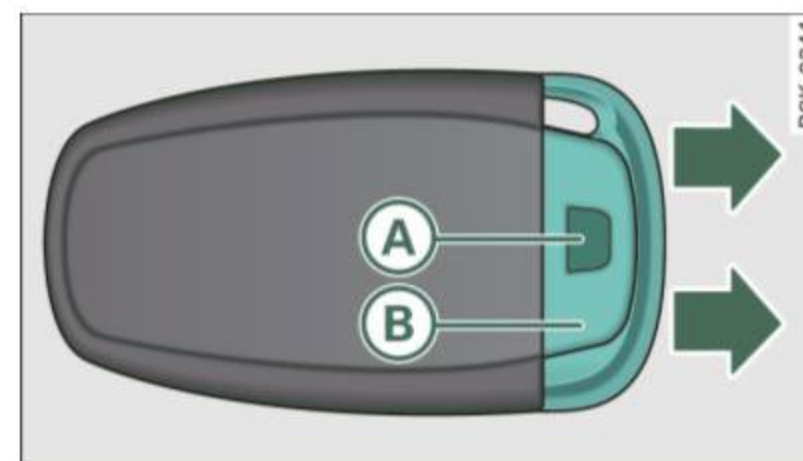

Fig. 27 Remote master key: Removing the mechanical key
- Press the release button  ⇒ fig. 27. ▶